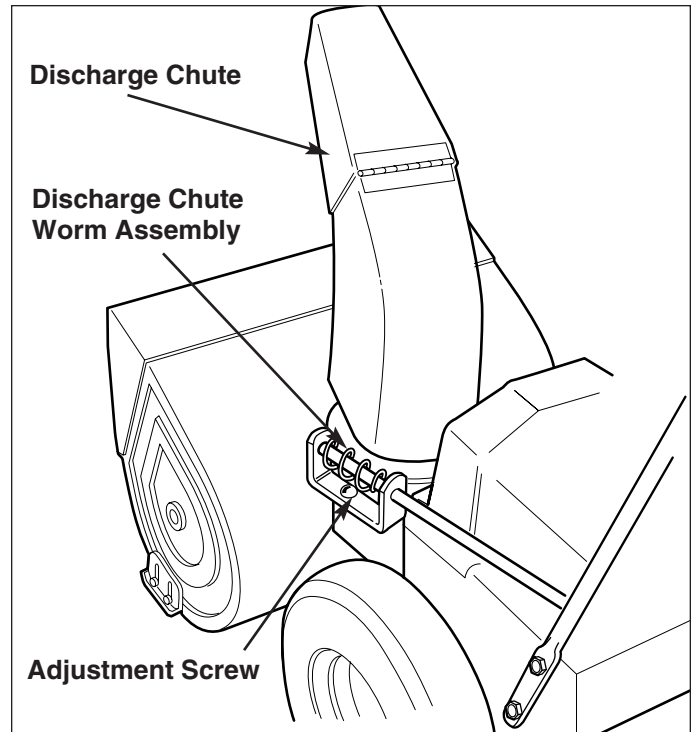

Figure 20. Discharge Chute Worm Adjustment
1. Loosen the adjustment screw under the Worm Assembly mounting area (Figure 20).